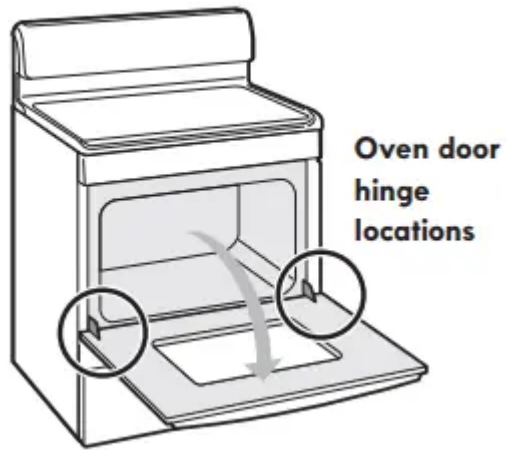

Figure 43: Oven hinge locations
1. Open oven door completely (horizontal with floor -Figure 43).
3. Fully open the oven door (horizontal with floor - Figure 43).